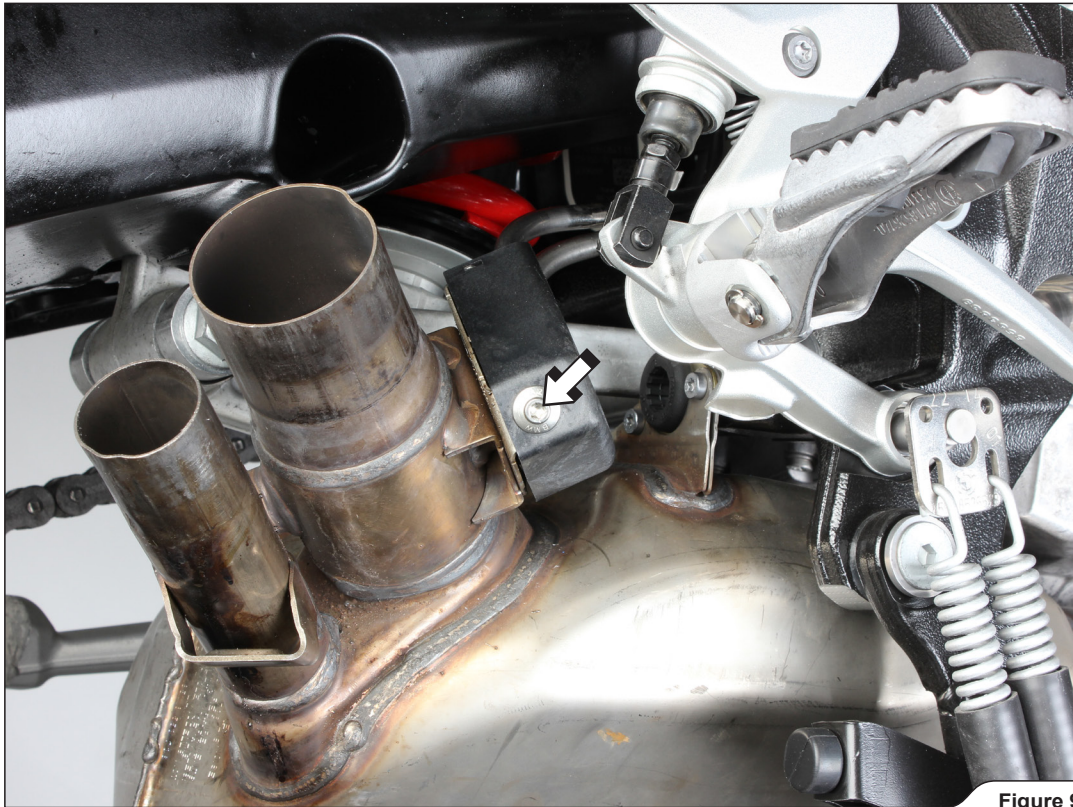

Figure 9
7. Unscrew the marked bolt, remove the exhaust valve's cover, unscrew the marked cables' nuts and remove the cables off the valve (Figure 9, 10).